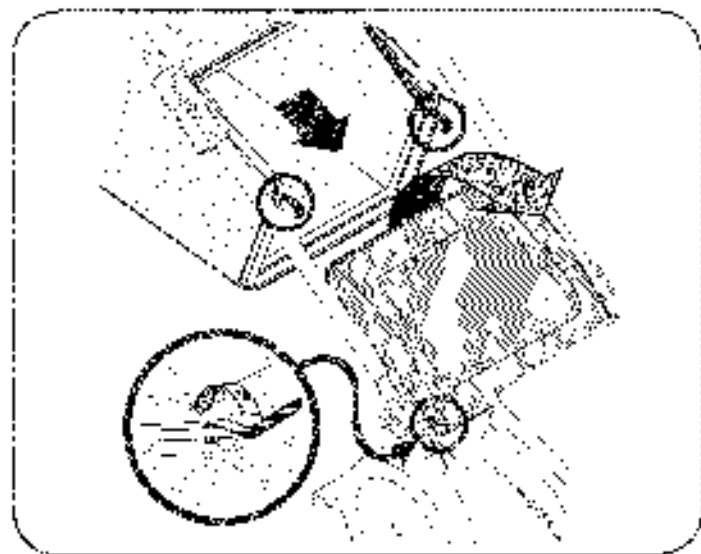

Figure 4
- Place grass catcher on the pivot rod. Latch of discharge door so that it rests on the grass catcher. See Figure 4.